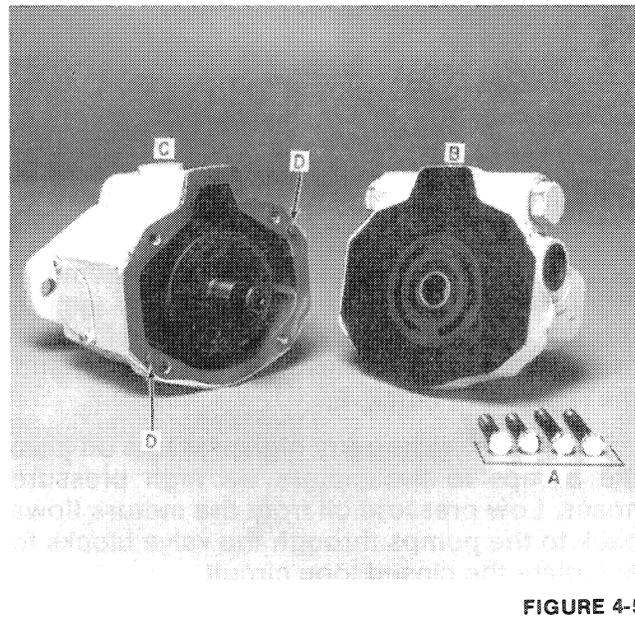

FIGURE 4-5
5. To separate the valve plate from the pump housing, remove the four bolts, A, Figure 4-5, and tap the valve plate, B, with a plastic or rubber mallet to separate it from pump housing, C.
NOTE: The pump housing has two alignment dowel pins, D, Figure 4-5.